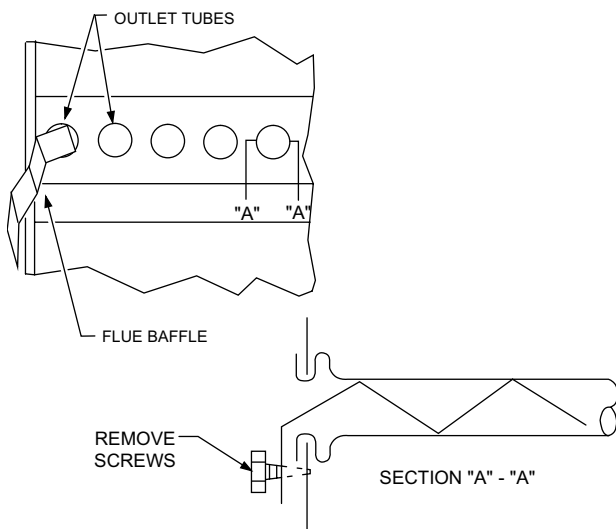

FIGURE 54 : TYPICAL FLUE BAFFLE
3. This will provide access to flue baffles, then remove the flue baffles from the tube interiors. To remove, the flue baffles, remove the stainless steel screws from the vest panel. Refer to Figure 54.